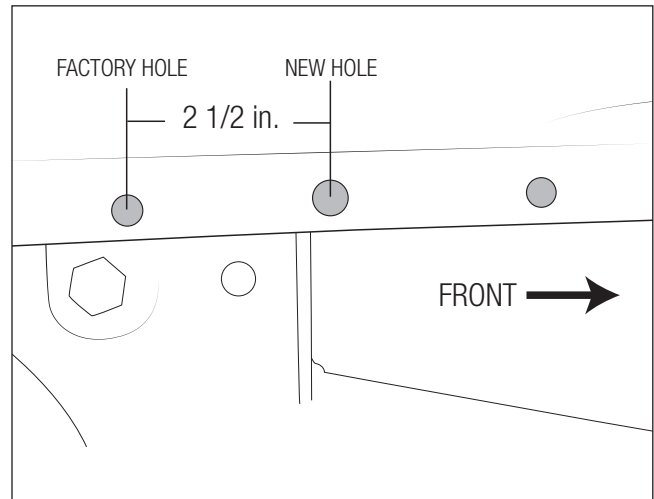

Figure 8: Passenger Side Shown
- B. Drill a $7/16$ " hole in the pinch weld $2\ 1/2$ " from the stock location towards the front of the vehicle (fig. 8).